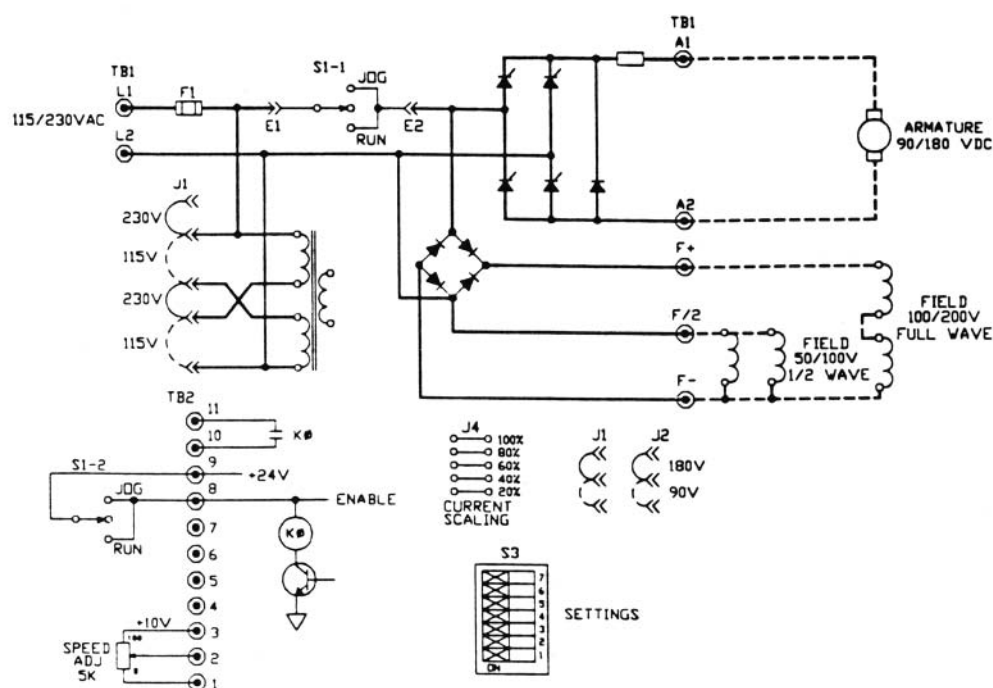
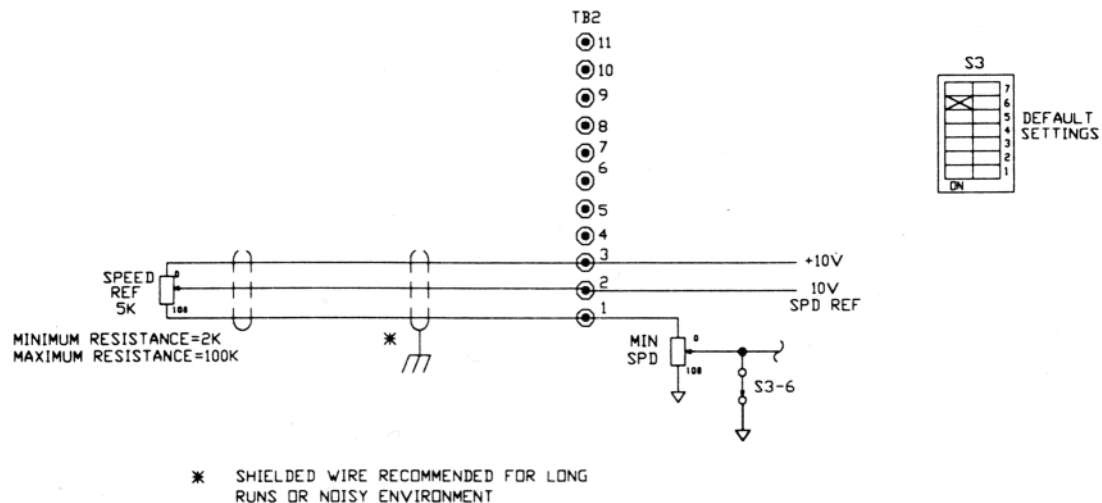

FIGURE 2. LOGIC CONNECTION DIAGRAM, RUN-STOP-JOG SWITCH, 1/6 - 2 HP
FIGURE 8. SIGNAL CONNECTION DIAGRAM, MOTOR SPEED POTENTIOMETER
9. If remote operator control wiring and/or signal wiring is required, connect the controller as shown in the appropriate connection diagram (Figures 2 through 15A). Figures 2 through 7 show operator control connections, and Figures 8 through 15 show signal connections.